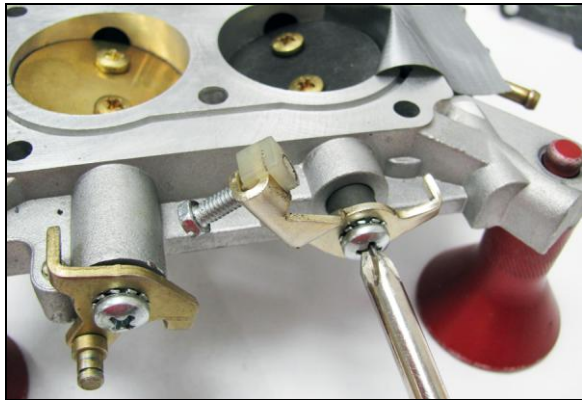

Figure 6
8. Remove the fast idle cam lever and spring assembly (Figure 6). Note how the spring is positioned in the fast idle cam lever. Next, back out the curb idle speed screw six complete turns. Unhook the throttle return spring from the boss on the throttle body. Spray a light coat of WD-40 on the shaft and gently pull the shaft out. Do not force it if you feel any resistance. If so, double check for burrs or metal shavings.